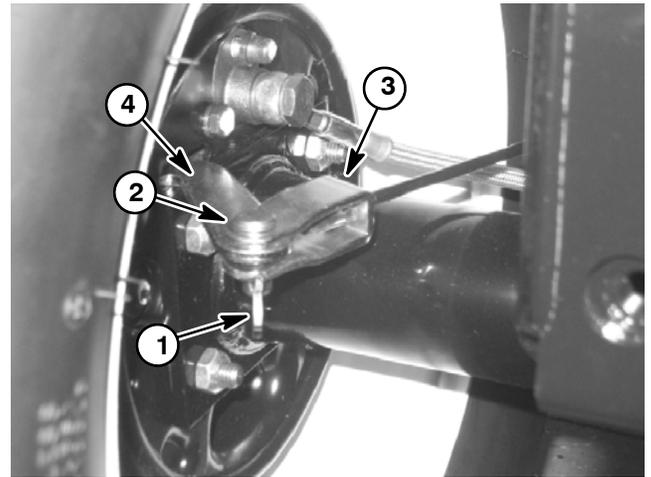
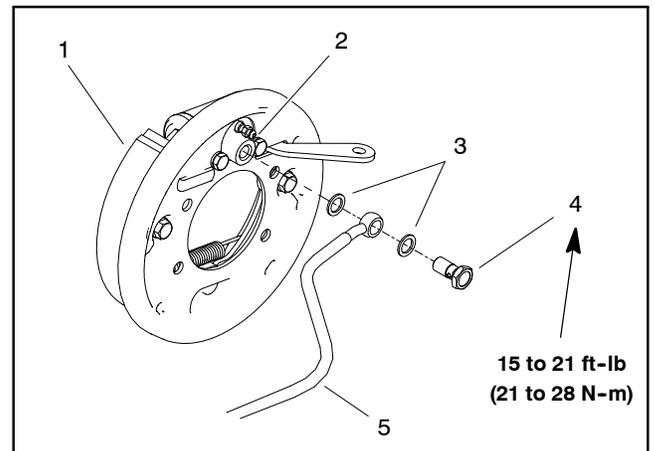

Figure 2
Figure 3
3. Remove five (5) lug nuts, wheel assembly and brake drum from the wheel hub.
4. Remove cotter pin and flange nut that secure wheel hub (item 7) to the transaxle shaft.
A. Remove cotter pin and clevis pin securing the parking brake cable bracket to the brake actuator lever (Fig. 2).
C. Remove four (4) socket head screws and lock nuts securing the brake assembly to the transaxle. Remove brake assembly from the transaxle.
**IMPORTANT:**The parking brake actuation levers should be positioned above the transaxle mount. When positioned correctly, the levers will point toward the rear of the vehicle (Fig. 2).
A. Secure brake assembly to the transaxle with four (4) socket head screws and lock nuts. Torque lock nuts from **26 to 30 ft-lb (34 to 41 N-m)**.
B. Position and secure hydraulic brake line to wheel cylinder (Fig. 3). Torque banjo bolt from **15 to 21 ft-lb (21 to 28 N-m)**.
C. Secure parking brake cable bracket to the brake actuator lever with clevis pin and cotter pin (Fig. 2).